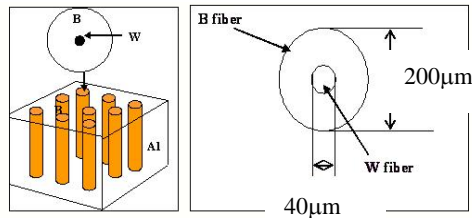

Figure 1
- [b] A metal matrix composite is made from a boron (B) fiber reinforced aluminum alloy (Figure 1). To form the boron fiber, a tungsten (W) wire ( $r = 20\mu\text{m}$ ) is coated with boron, giving a final radius of  $100\mu\text{m}$ . The aluminum alloy is then bonded around the boron fiber, giving a volume fraction of 0.80 for the aluminum alloy. Assuming that rule of mixture is applied also to ternary mixture; calculate the effective tensile elastic modulus of the composite material under isostrain conditions. Data  $E_w = 410\text{GPa}$ ;  $E_B = 379\text{GPa}$ ;  $E_{Al} = 68.9\text{GPa}$ .